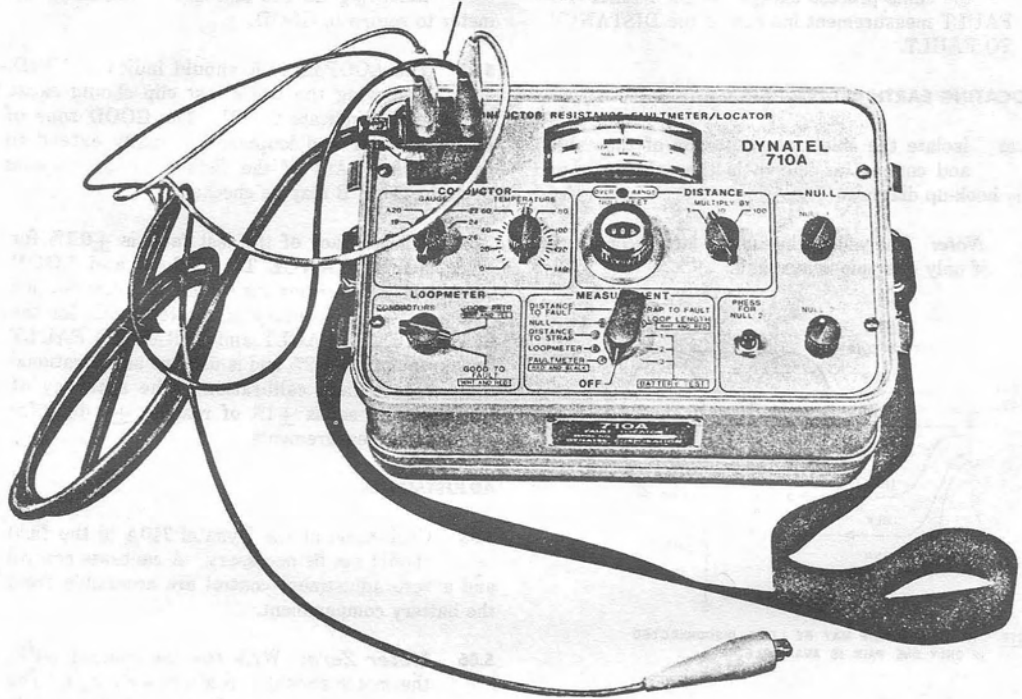

Fig. 8—Self Test
5.01 A complete test of the instrument and test cable may be performed by connecting the test clips to the test fault terminals of the same color on top of the test cable plug (Fig. 8). The operation of the instrument is exactly the same as when connected to a telephone cable. The extension cable may also be connected for check-out.